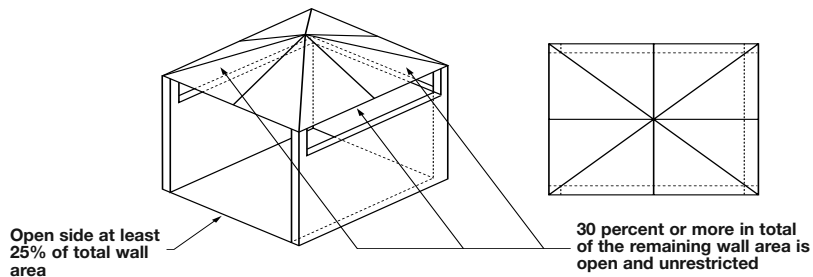

Figure D.4 - Outdoor area - Example 4
- (C) Within a partial enclosure that includes an overhead cover and more than two walls, the following shall apply: (see Figure D.4 & D.5)
- (1) At least 25 % of the total wall area is completely open.
- (2) 30 % or more in total of the remaining wall side, back and front wall areas is open and unrestricted.
- (3) In the case of balconies, 20 % or more of the total wall area shall remain open and unrestricted.